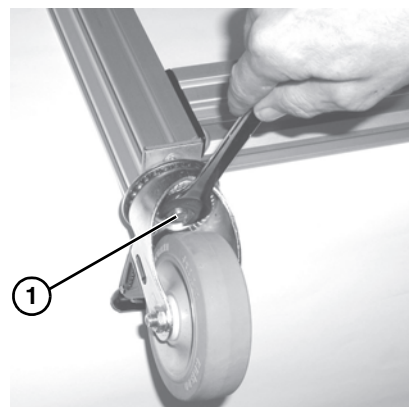

Figure 7
8. Tighten lock nut (**Figure 7, item 1**) to 30 ft-lb (40 N-m).